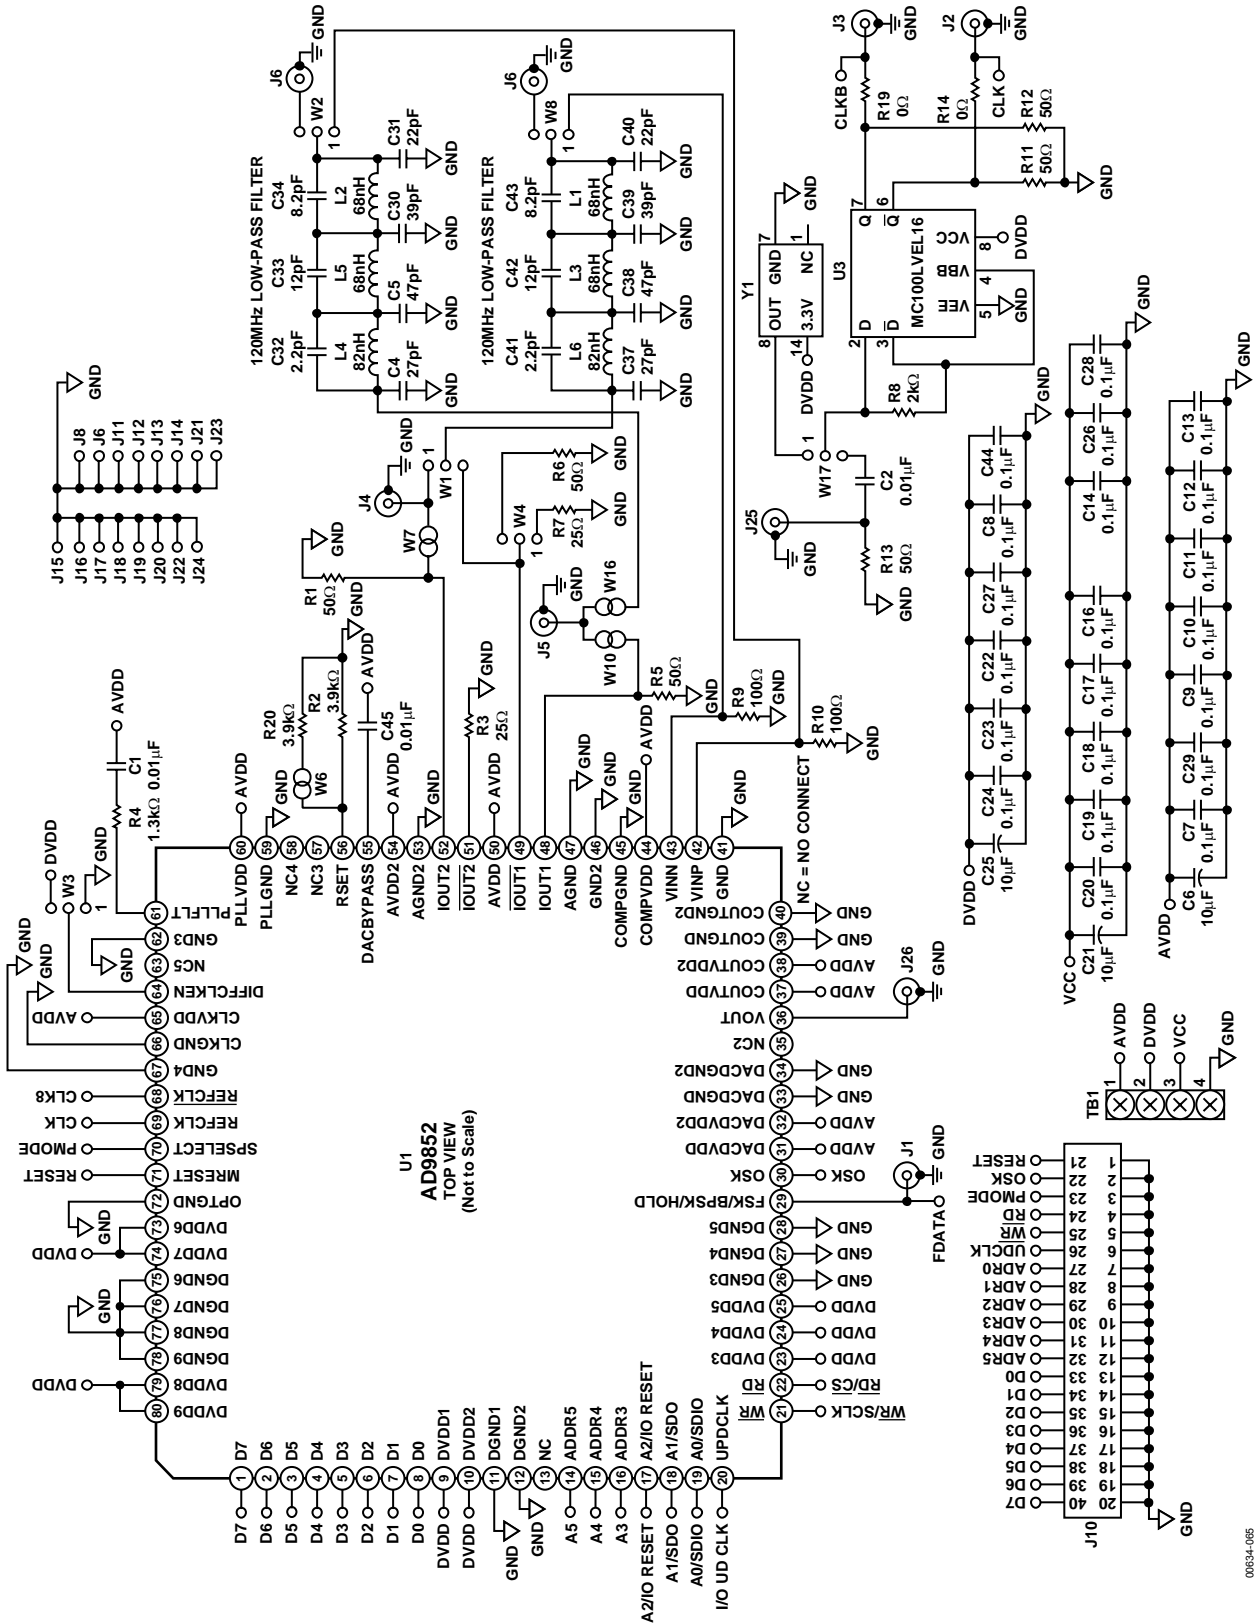
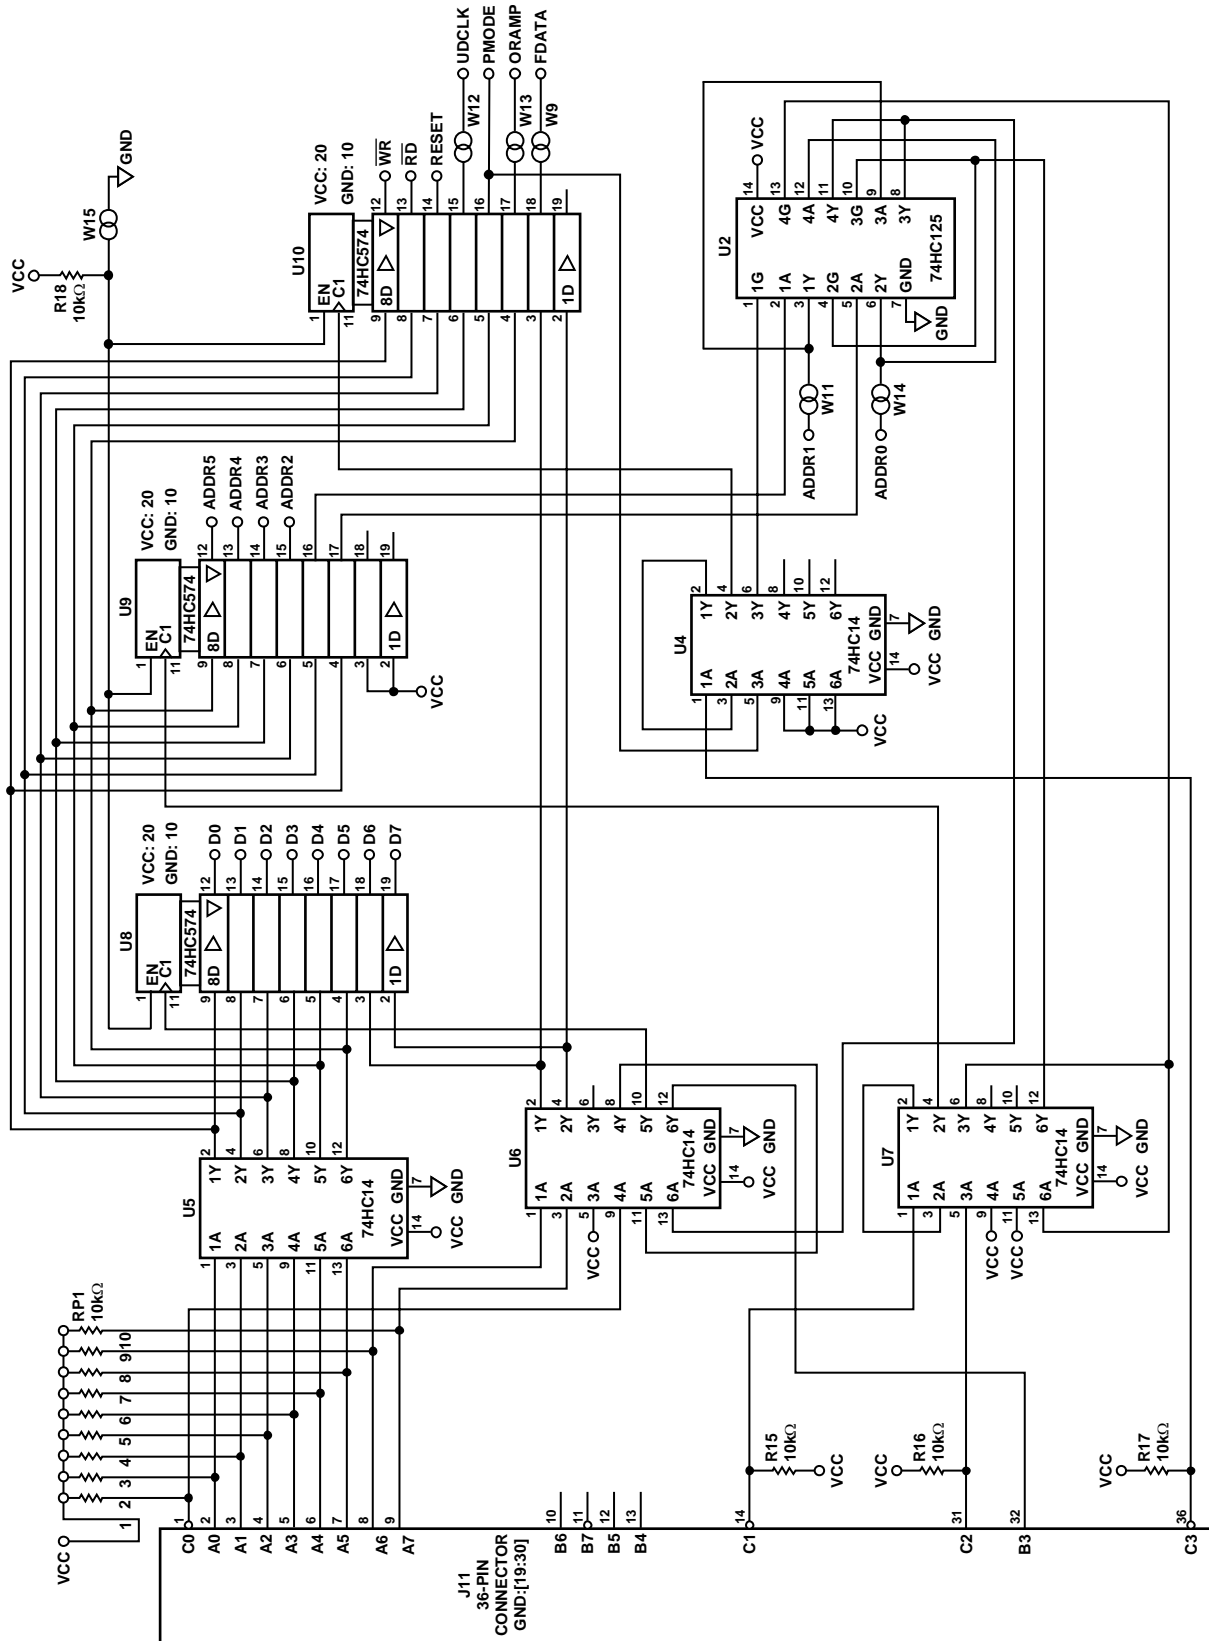

Figure 65. Evaluation Board Schematic
Figure 66. Evaluation Board Schematic
The purpose of 2-pin headers, W7 and W10 (associated with J4 and J5), is to allow the two 50 Ω , 120 MHz filters to be tested during PCB assembly without interference from other circuitry attached to the filter inputs. Normally, a shorting jumper is attached to each header to allow the DAC signals to be routed to the filters. If the user wishes to test the filters, the shorting jumpers at W7 and W10 should be removed and 50 Ω test signals applied at J4 and J5 inputs to the 50 Ω elliptic filters. The user can refer to the provided schematic (Figure 65 and Figure 66) and the following sections to properly position the remaining shorting jumpers.
4. Refer to this data sheet and the evaluation board schematic (Figure 65 and Figure 66) to understand all the functions of the AD9852 available to the user and to gain an understanding of how the software responds to programming commands.